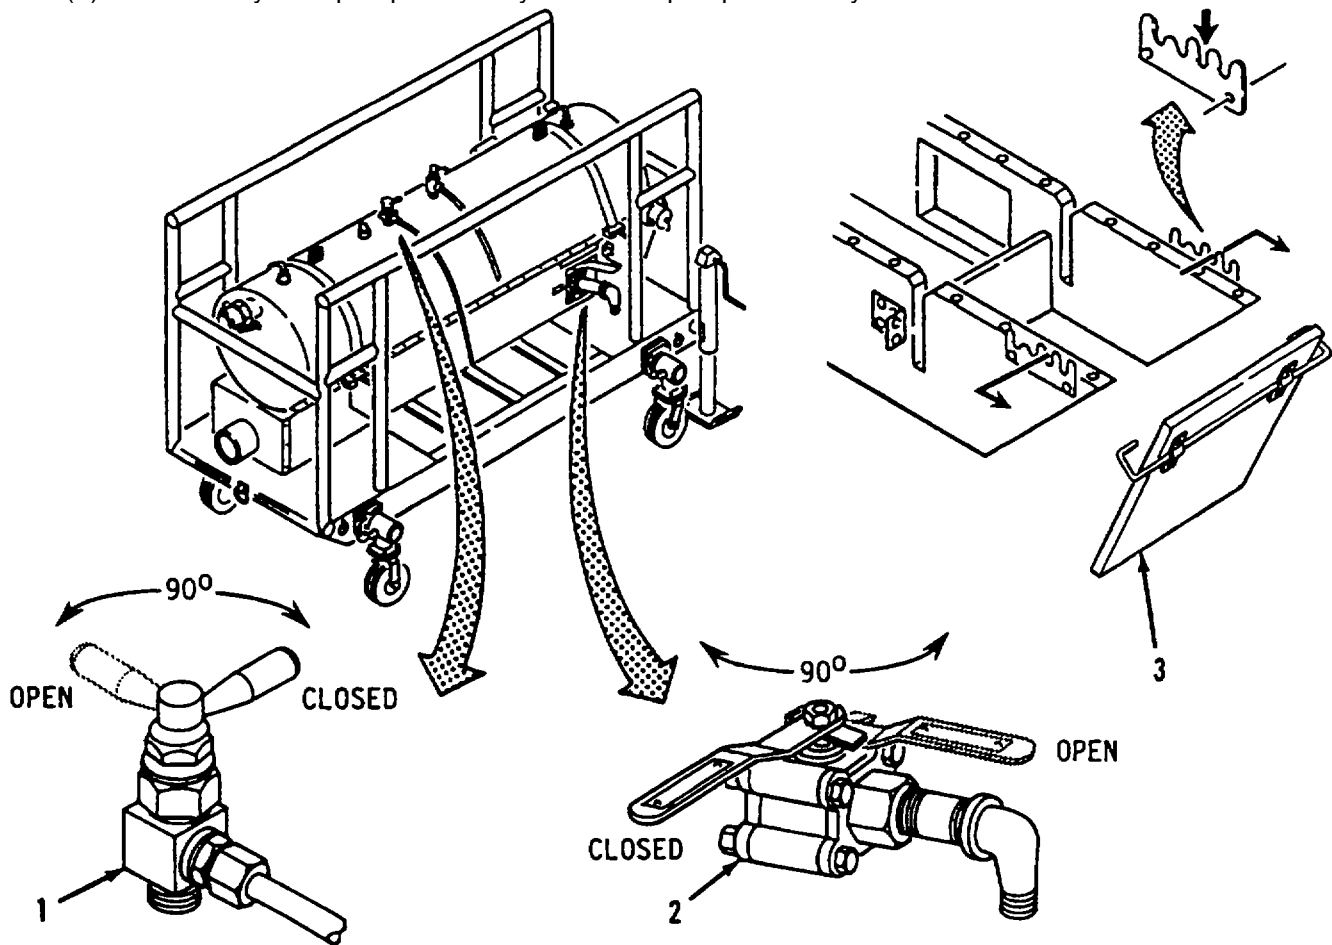

Figure 2-14. Tank Filling Procedures- Setting Controls
h. Tank Filling Procedure (Refer to Figure 2-14).
- (1) Set the 200 GPM filter-separator controls as follows:
- (a) Air Vent valve (1) - CLOSED.
- (b) Water Drain valve (2) - CLOSED.
- (c) Defrost door (3) - second notch of adjustment range.
- (2) Open an upstream blocking valve slightly to fill the filter-separator slowly with as little pressure as possible. Refer to system technical manual.
- (3) Start the system pump assembly. Refer to pump assembly technical manual. **2ND NOTCH**